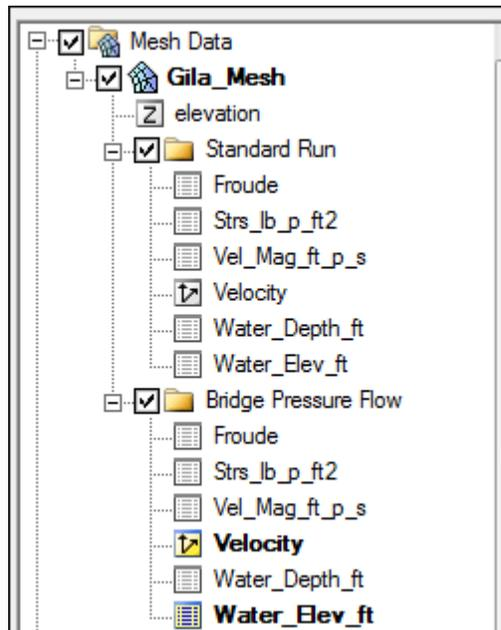

Figure 5 Mesh dataset organization
5. Drag the selected datasets below the “ Bridge Pressure Flow” folder that was created in step 2. The datasets should be organized as shown in Figure 5.